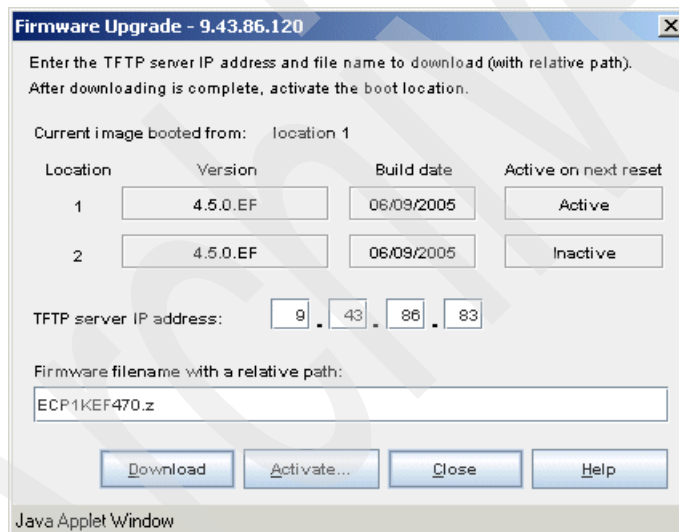

Figure 17-20 Specifying the TFTP server
1. From the Element Manager, select **File** → **Firmware Upgrade**. The Firmware Upgrade window opens (Figure 17-20), showing the currently active boot image location, along with the firmware level and build date. In this case, 4.5.0 is the active level.